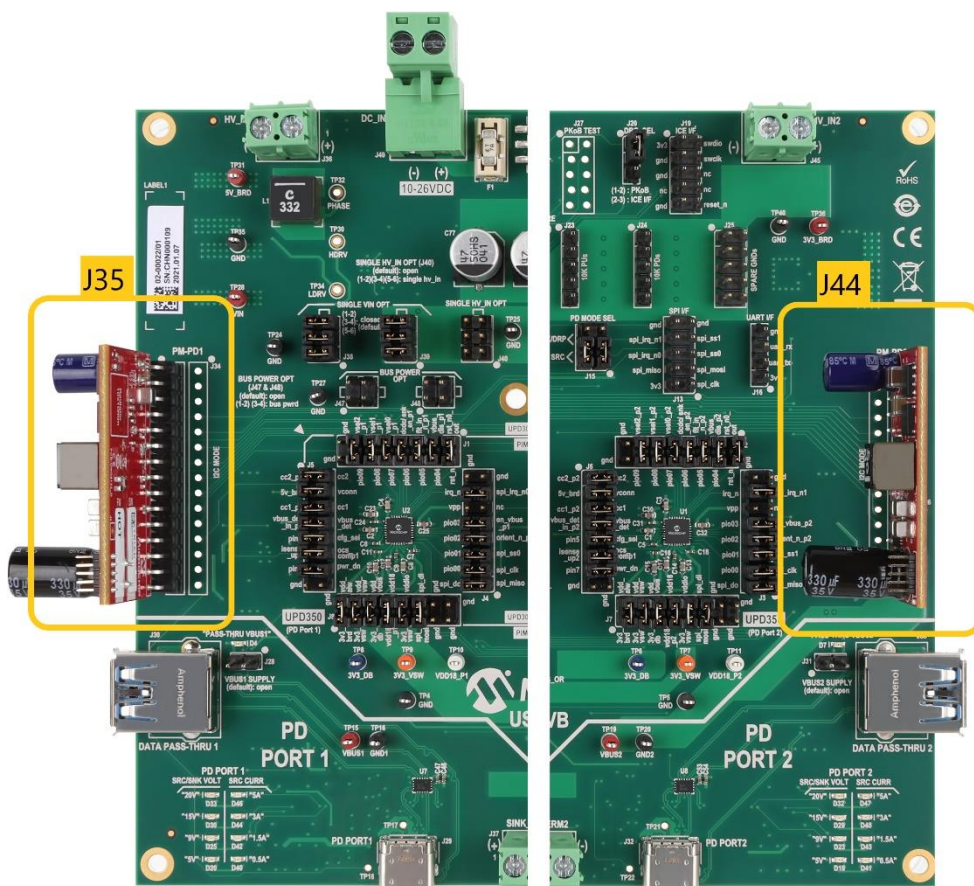

Figure 5.1 PM-PD Orientation
1. Connect PM-PD modules to J35 and J44 of the EVB-PSF in correct orientation as shown in Figure 5.1